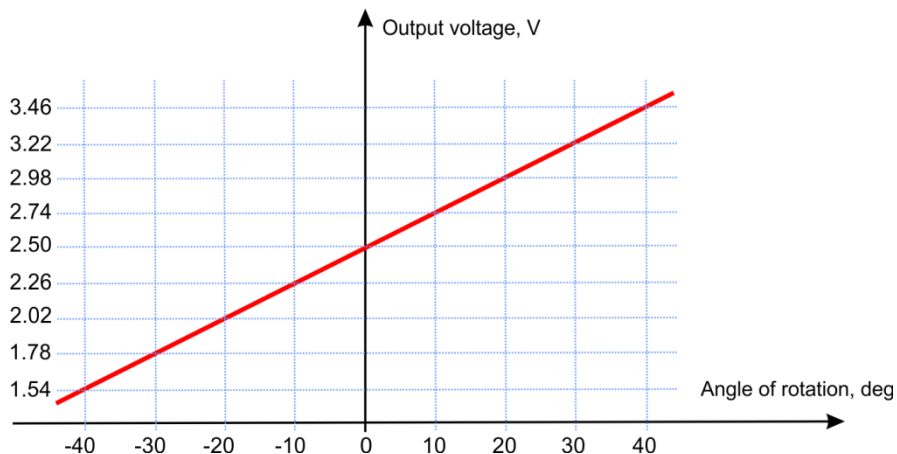

Figure 10 – GNOM DP output voltage versus lever rotation angle characteristic
1) **GNOM DP output signal value** is linearly dependent on lever rotation angle value (see figure 10).